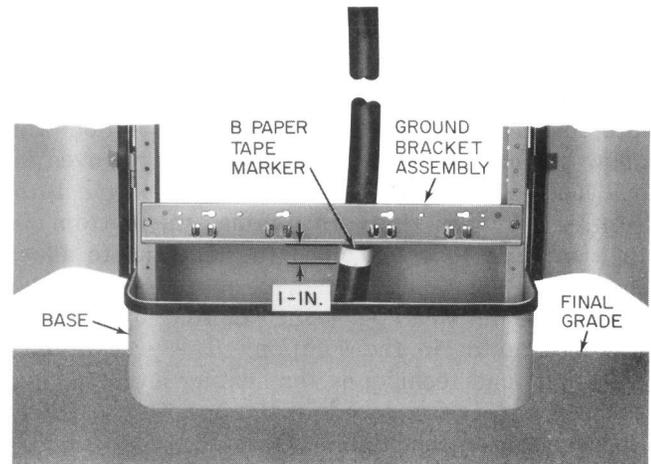

Fig. 18—Marking Cable for Sheath Opening (UP-1254)
8.01 The sheath is easily removed when warm. In cold weather use the precautions and procedures listed in 8.02 and 8.03 to facilitate sheath removal. (For dimensions, see Fig. 18 and Part 9.)
9.01 Place the cable against the ground bracket assembly, centered on the hole in the ground bracket assembly where the bond clamp will be installed. Mark the sheath one inch below the ground bracket assembly, and place a B paper tape marker on the sheath (Fig. 18).